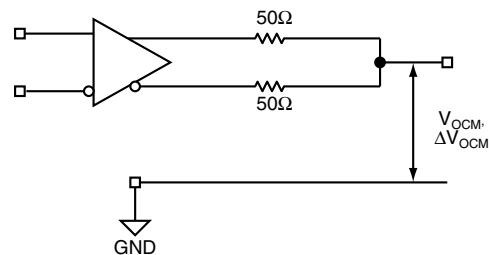

Figure 1b. LVDS Common Mode Measurement
**Note 4.** Measured as per Figure 1b.